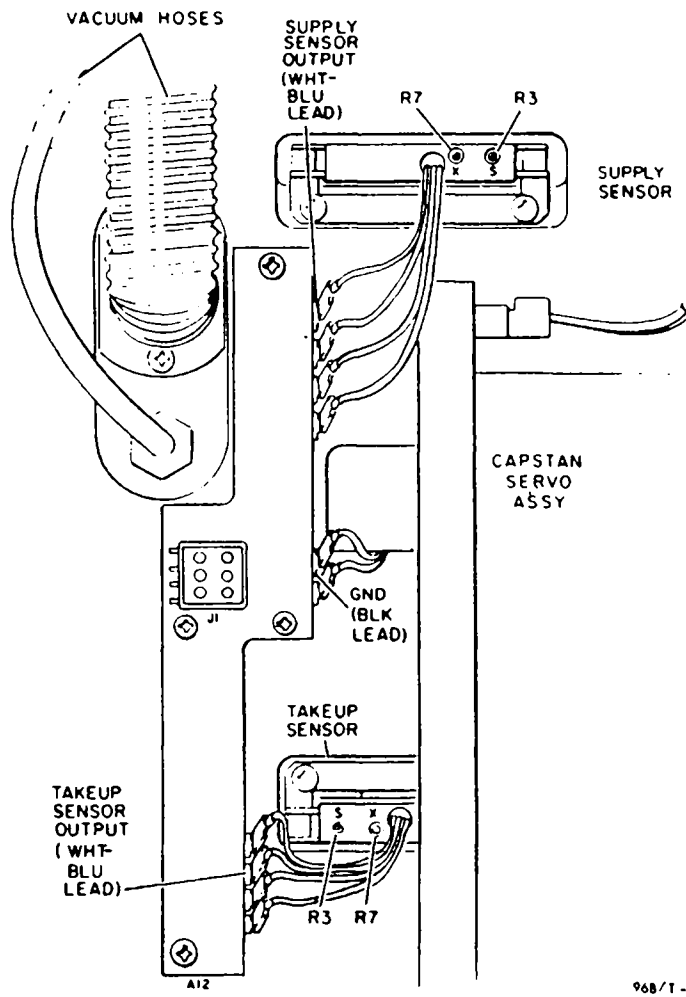

Figure 5-4. Tape Sensor Adjustment
The supply and takeup tape sensors in the vacuum columns each have two adjustments: gain and symmetry. The procedures in the following paragraphs explain how to make these adjustments. Figure 5-4 locates the adjustments and test points on the transport.
- c. Connect digital voltmeter between (bottom wht blu lead) and (ground) Black lead for the takeup sensor, or between (top wht blu lead) and black lead (ground for the supply sensor. (See Figure 5-4)